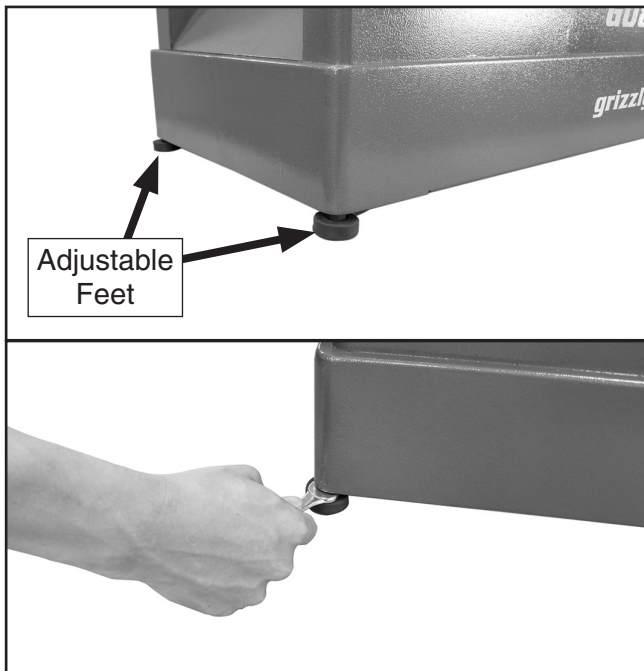

Figure 12. Leveling jointer.
5. Adjust feet (see **Figure 12**) as necessary until jointer is stable without any rocking or wobbling.